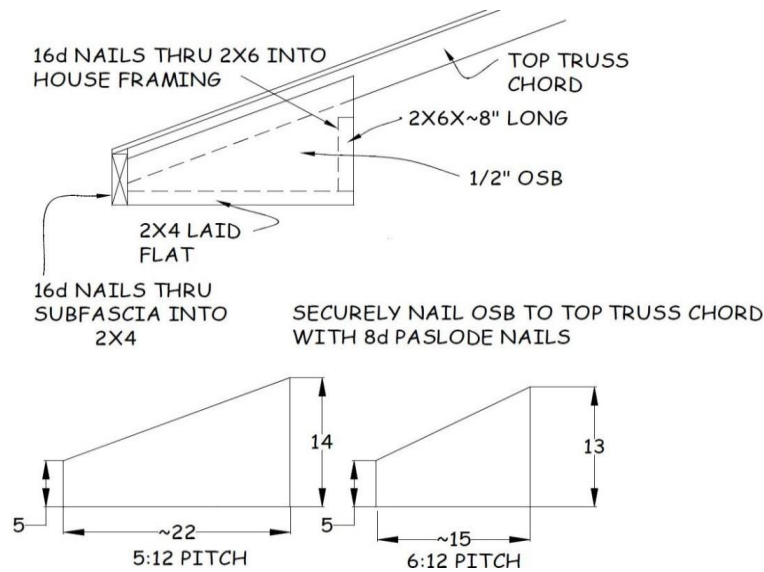

Figure 11-3. Gable Corner.
2. Gable corners are built using one layer of ½" OSB (see Figure 11-3).
6. Nail the OSB to the 2x4 and the 2x6 with six 2 3/8” collated nails, using either factory edges or a framing square to keep the frame pieces square to each other (see Figure 11-3).